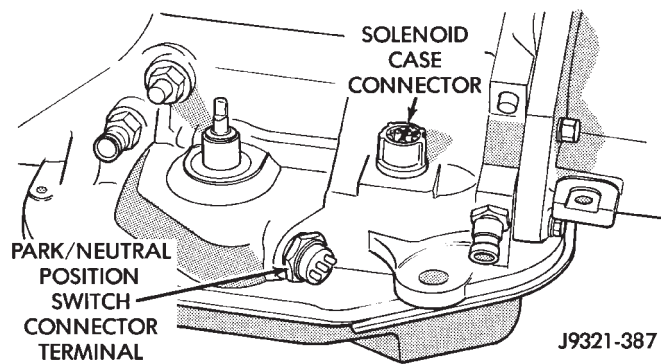
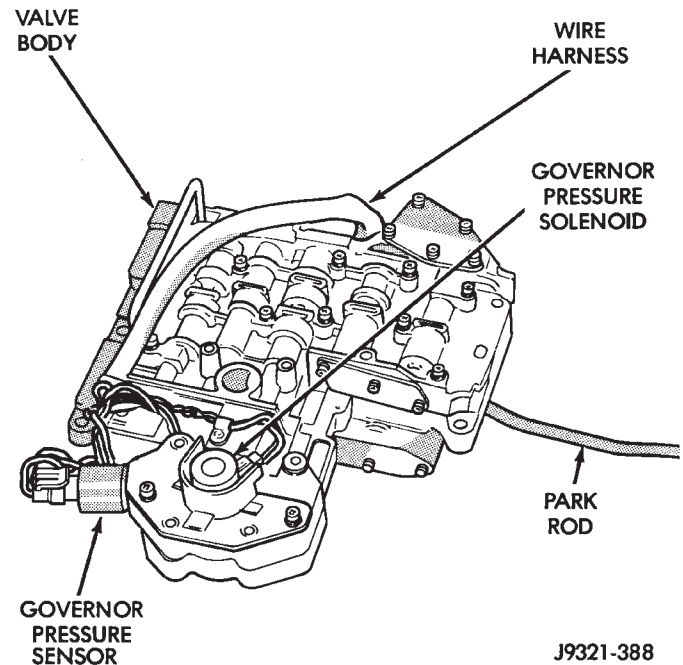

Fig. 38 Transmission Case Connector
Fig. 39 Valve Body
- (1) Shift transmission into NEUTRAL.
- (2) Raise vehicle.
- (3) Remove gearshift and throttle levers from shaft of valve body manual lever.
- (4) Disconnect wires at solenoid case connector (Fig. 38).
- (5) Position drain pan under transmission oil pan.
- (6) Remove transmission oil pan and gasket.
- (7) Remove fluid filter from valve body.
- (8) Remove bolts attaching valve body to transmission case.
- (9) Lower valve body enough to remove accumulator piston and springs.
- (10) Work manual lever shaft and electrical connector out of transmission case.
- (11) Lower valve body, rotate valve body away from case, pull park rod out of sprag, and remove valve body (Fig. 39).